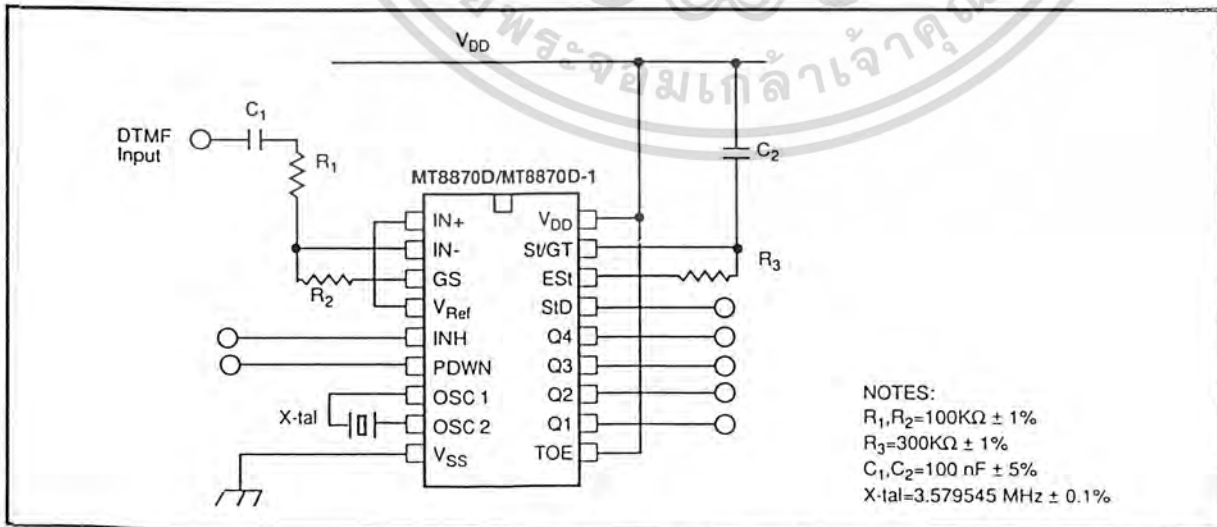

Figure 10 - Single-Ended Input Configuration
**MT8870D AC Electrical Characteristics** -  $V_{DD}=5.0V \pm 5\%$ ,  $V_{SS}=0V$ ,  $-40^{\circ}C \leq T_O \leq +85^{\circ}C$ , using Test Circuit shown in Figure 10.
**MT8870D-1 AC Electrical Characteristics** -  $V_{DD}=5.0V\pm 5\%$ ,  $V_{SS}=0V$ ,  $-40^{\circ}C \leq T_O \leq +85^{\circ}C$ , using Test Circuit shown in Figure 10.
12. Referenced to Fig. 10 input DTMF tone level at -25dBm (-28dBm at GS Pin) interference frequency range between 480-3400Hz.
AC Electrical Characteristics -  $V_{DD}=5.0V\pm 5\%$ ,  $V_{SS}=0V$ ,  $-40^{\circ}C \leq T_o \leq +85^{\circ}C$ , using Test Circuit shown in Figure 10.